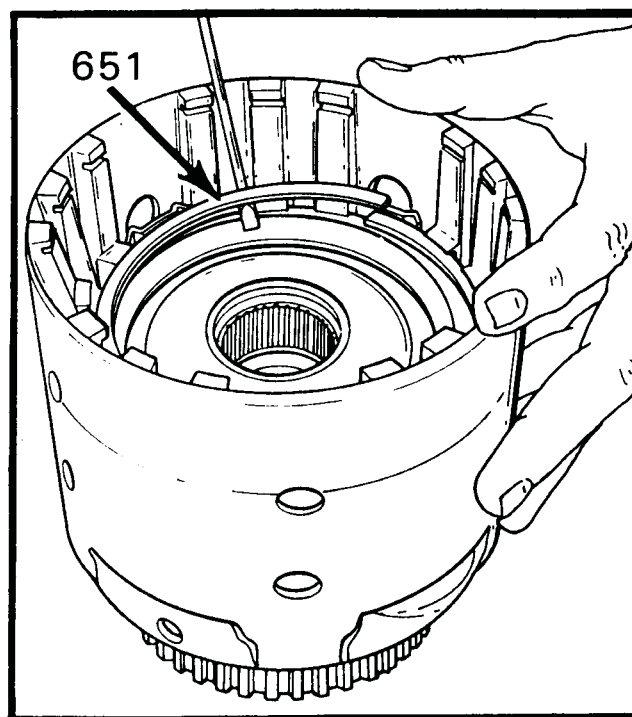

Figure 133
6. Install the backing plate snap ring using a screwdriver as shown in Figure 133.